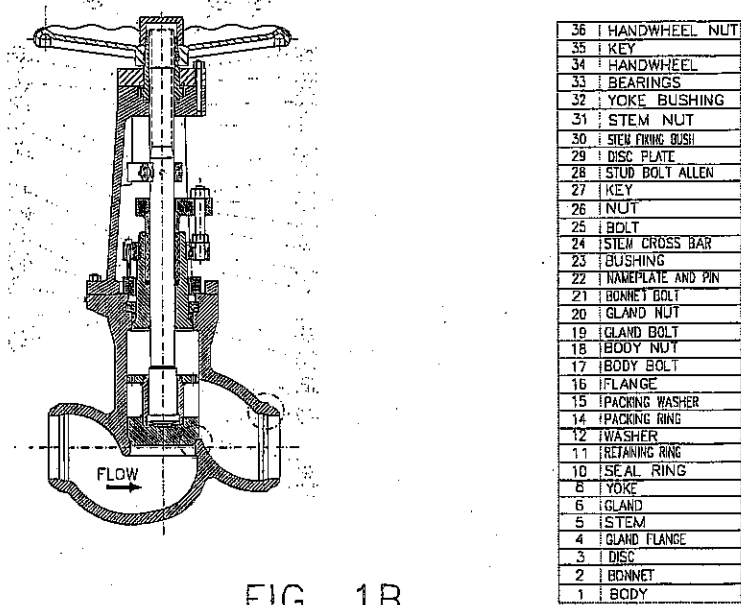

FIG. 1B
- *Figure 1B* ► it represents a pressure-seal globe valve.